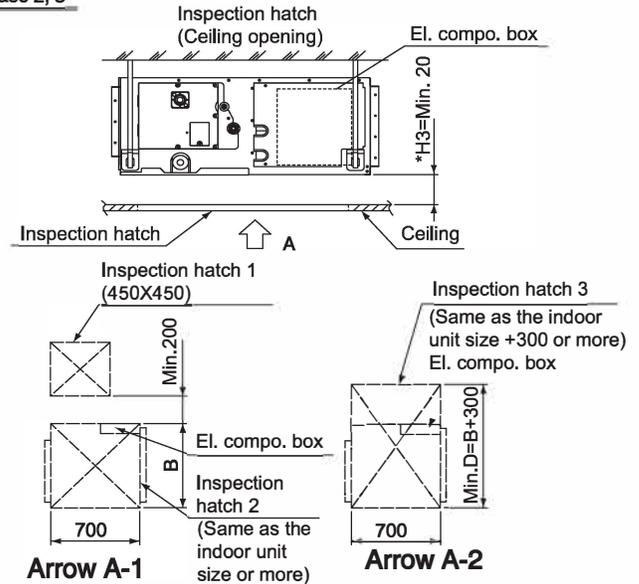

Fig. 2-3
2. Inspection hatch 1 (450 × 450) on the control box side and inspection hatch 2 on the bottom of the product.(Fig. 2-3, arrow A-1)
3. Inspection hatch 3 on the bottom of the product and on the bottom side of the control box, see direction view A-2 (Refer Fig. 2-3)